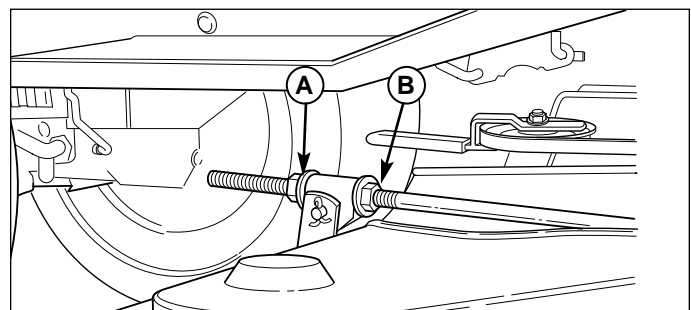

Figure 10. Front to Back Leveling
8. To raise front of mower deck, loosen front nut (B) and turn rear nut (A, Figure 10) against bracket. To lower front of mower deck, loosen rear nut (A) and the bracket will move backwards to lengthen rod.